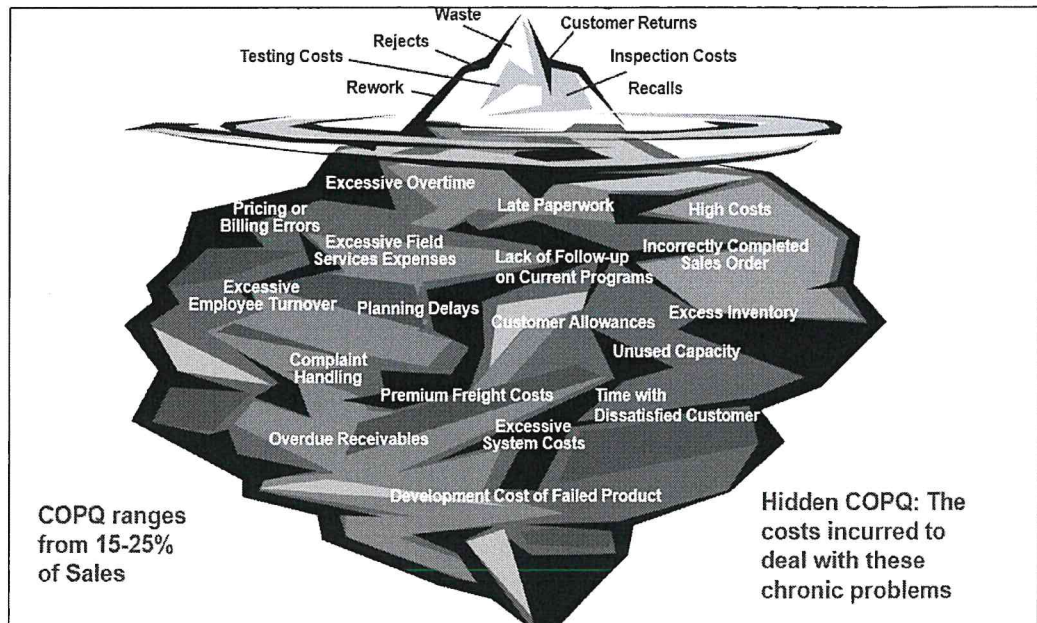

Figure 3(iii) / Rajah 3(iii)
- i. List **THREE (3)** external failure cost activities and **THREE (3)** internal failure cost activities in Figure 3(iii).
*Senaraikan dengan jelas **TIGA (3)** aktiviti kos kegagalan luaran dan **TIGA (3)** aktiviti kos kegagalan dalaman yang terdapat dalam Rajah 3(iii).*
- ii. Relate the relationship occurred between Figure 3(iii) in visible and invisible Cost of Poor Quality (CoPQ).